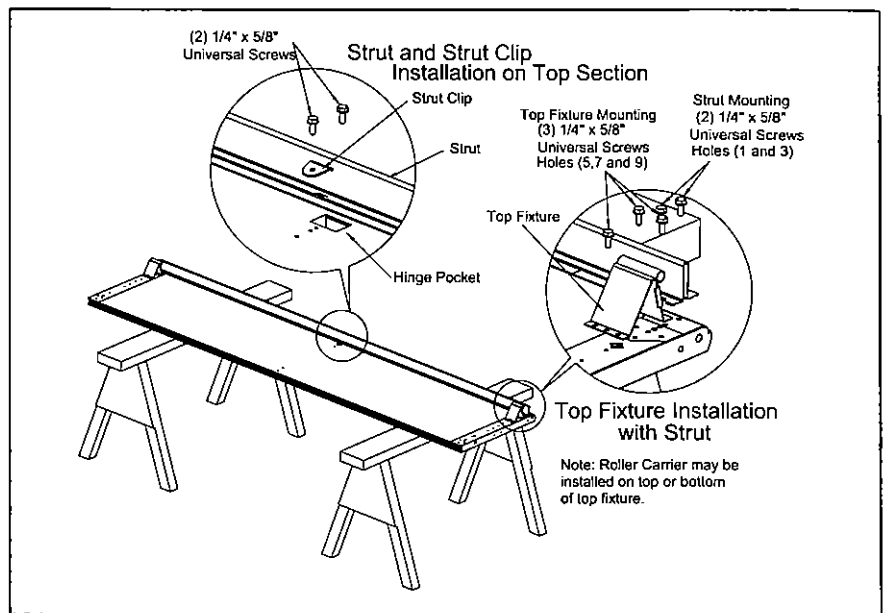

FIGURE 6
Place the top section face down on saw horses and if strut required, (Table 3) install along top rail of section using (2) 1/4" x 5/8" universal screws and holes (1,2) on each end stile (Figure 6). Attach strut between end stiles with (2) 1/4" x 5/8" universal screws and (1) strut clip at each hinge pocket along top rail (Figure 6). Align top fixtures with holes (5,7,9) (Figure 6) on the top corner of each end stile and secure in place as shown using (3) 1/4" x 5/8" universal screws; sliding roller carrier may be installed on top or bottom of top fixture. (Figure 6).